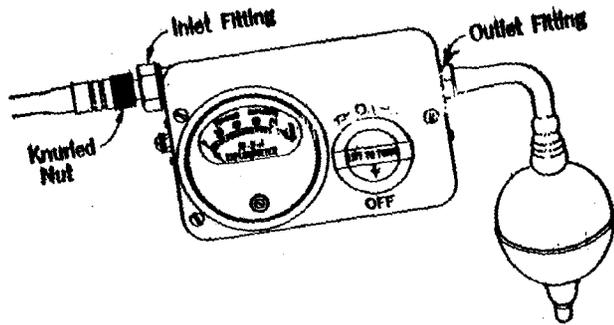

Fig. 3
3.04 Adjustment of Indicator To Zero (See Fig. 3.)
3.07 Dry Batteries: Six KS-14711 dry batteries are located in the bottom of the case. To replace the batteries, loosen the two thumb screws in the bottom of the case and remove it. The batteries operate in parallel and should be installed with their tops toward the top of the battery compartment. The batteries should be replaced as a group. The position of the arrow on the rheostat gives an approximate indication of the condition of the batteries. With fresh batteries in the case and the circuit balanced, the arrow should point toward the outlet side of the indicator. The batteries are exhausted when the meter needle remains below zero and cannot be brought up to zero when the rheostat is turned to its extreme clockwise position (see Figure 3).
3.09 Filter Chamber: The filter chamber is located in the inlet fitting and is reached by unscrewing this fitting (see Fig. 3). The filter should be replaced if clogged or after four weeks of ordinary use.
3.10 Meter: When the indicator is not in operation, the meter should rest on zero. If the mechanical adjustment of the needle has been disturbed, it should be reset with a small screwdriver (see Fig. 3).